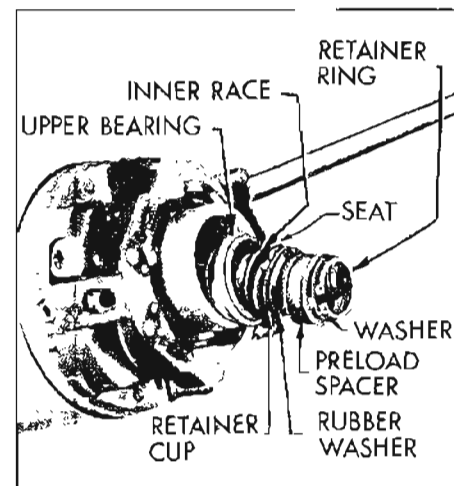

Figure 8-90—Installing Bearing Preload Parts
8. Remove washer, bearing preload spacer, rubber washer, retainer cup, seat, bearing inner race and upper bearing. See Figure 8-90. Discard preload spacer.
12. Install the upper steering shaft bearing, bearing inner race, seat, retainer cup (lip side up), rubber washer, new bearing preload spacer, washer and retainer ring on upper steering shaft. See Figure 8-90.